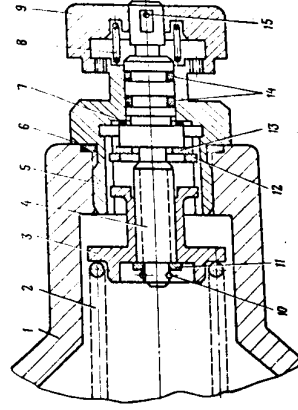

Fig. 42. Adjusting Head of Acceleration and HP-10.KC Pump Starting Control Units
- (c) manipulate the knob of the acceleration control unit adjusting head (Fig.42) to adjust fuel pressure drop in the auxiliary pipe-line at an engine speed corresponding to the engine control lever position at the "NORMAL" (HOMMHAH) stop, with the jet for bleeding air from the acceleration control unit turned out, and at idling speed; perform additional adjustment of engine acceleration, if no proper jet for bleeding air has been selected. Prior to be turned, the knob should be disengaged by pressing it off.
Time period within which engine speed is accelerated to 2000 r.p.m. should be adjusted by turning the knob of the starter control unit adjusting head (See Fig.42); prior to turning the knob should be disengaged by pressing it off.